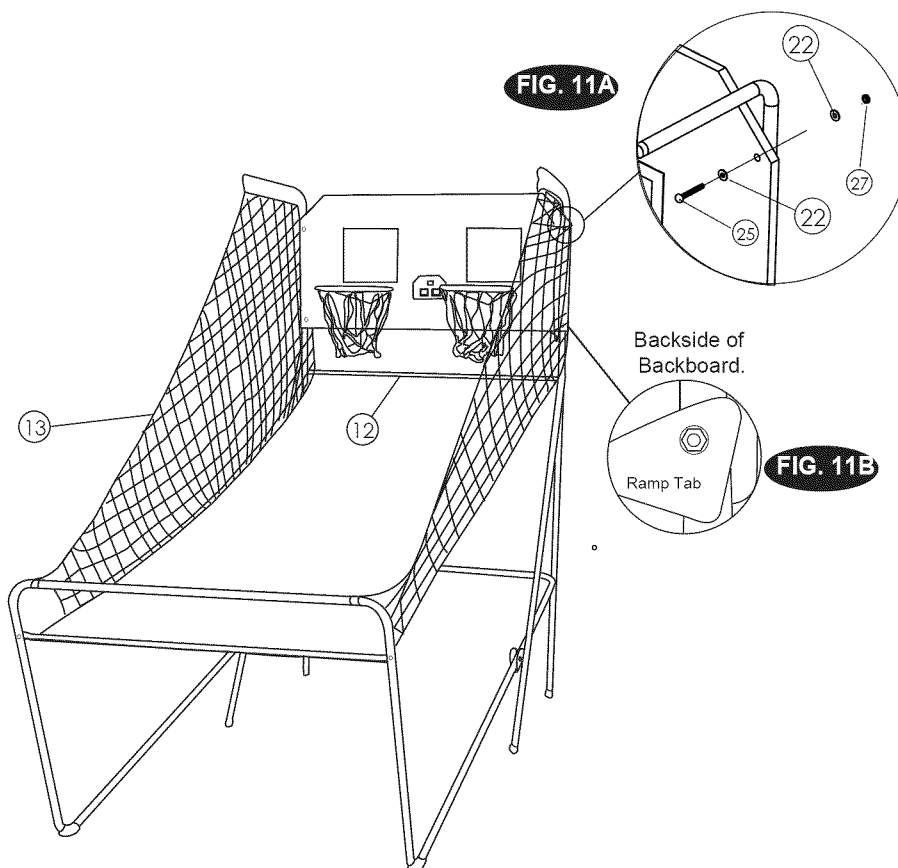

FIG. 12
16. Connect Sensor wire from Swith and Paddle Assembly to Electronic Scorer (#14) as shown in FIG12 and 12A. Connect the Adaptor (#34) to the Electronic Scorer (#14) as shown in FIG12 and 12A.